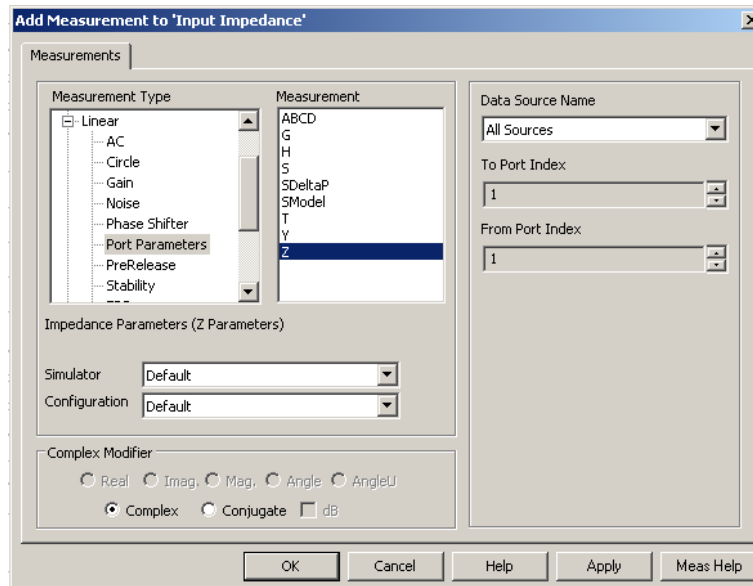

Figure 8.6: Chart 6 : Add Measurement
- Change your measurement dialogue box to match figure 8.6.